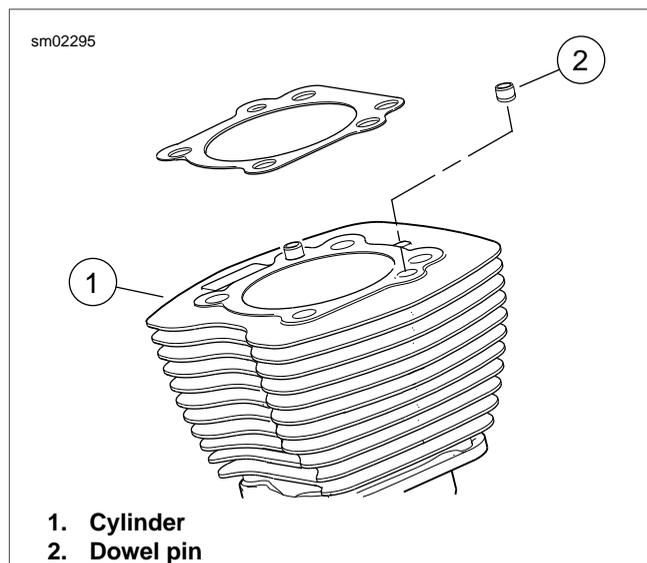

Figure 3-34. Cylinder Dowel Pins
1. See Figure 3-34. With the part number topside, place the head gasket over the two dowel pins in the upper flange of the cylinder.